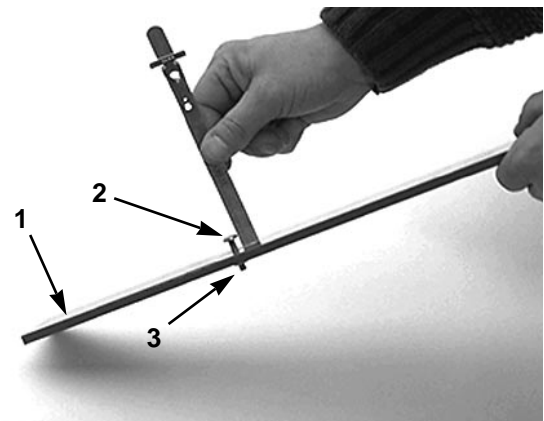

Fig. 7
3. Loosen the nut on the gauge bar (Fig. 7) and set the adjusting screw to desired height of cut. The distance between the bottom of the screw head and the face of bar is the height of cut.